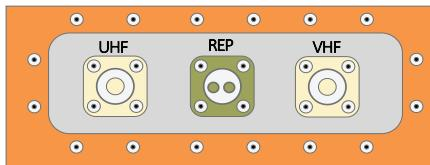

Figure 2:
- Before erecting the antenna mast, attach the other end of the **VHF** coax to the appropriate connector on the bulkhead mount on the back of the fiberglass box. *(See Figure 2)*